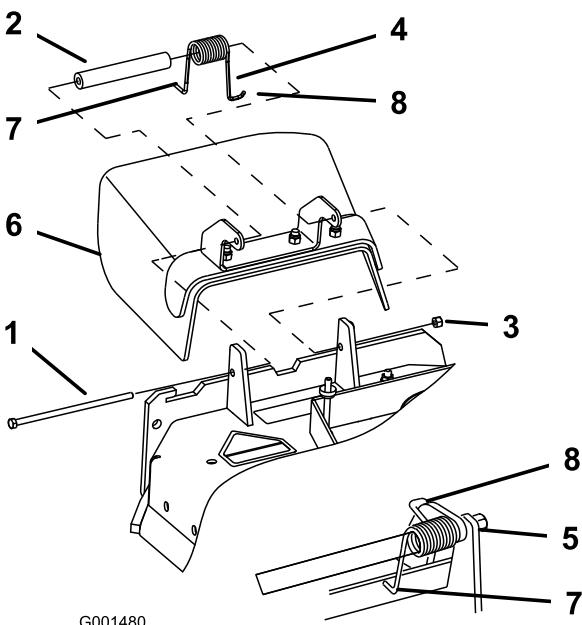

Figure 64
1. Remove the locknut, bolt, spring and spacer holding the deflector to the pivot brackets (Figure 64). Remove damaged or worn grass deflector.
Note: Make sure the **L** end of spring is installed behind deck edge before installing the bolt as shown in Figure 64.
3. Install bolt and nut. Place the **J** hook end of spring around grass deflector (Figure 64).